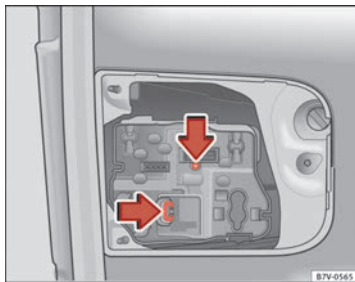

Fig. 212 On the boot lid:
5. Press on the attachment tabs in the direction of the arrow ⇒ fig. 212 and pull out the lamp holder.